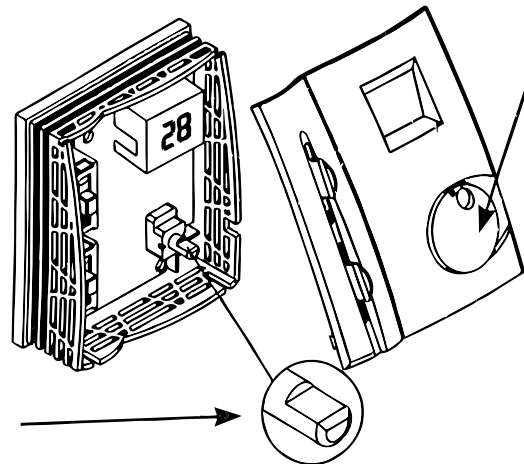

Figure 10 - Make sure the Dial is Vertical and the Adjustment Shaft is Horizontal
2. Align the humidistat adjustment shaft horizontally as shown in **Figure 10**.